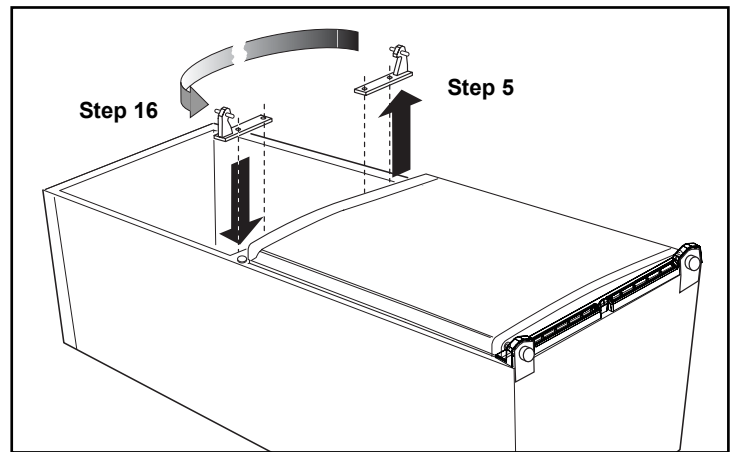

Fig.4
5. Remove centre hinge block (2 screws) and spacer (if fitted). *Fig.4*
16. Refit Centre Hinge (and spacer if fitted). Make sure the screws are fully tightened. See *Fig.4*.